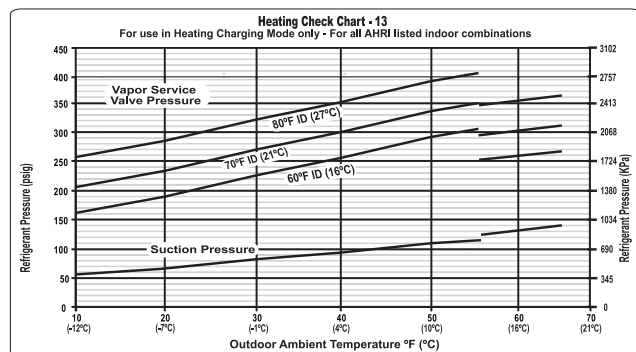

Fig. 27 – Heating Pressure Check Chart 288BNV013
Heating Check Chart Procedure (See Fig.27 - 33) (Communicating / Non-communicating Systems)
To use the Heating Check Chart, the user interface (UI) must be in Refrigerant Charging mode selected from the Installation and Service screen. The Charging Mode Selection screen will show selections for Weigh-In Charge Method or Heating Check Charge Method. Select Heating Check Charge Method. The Heating Check Charge method will only be displayed if the conditions are right for checking the charge in heating mode. When Heating Check Charge Method is selected, the system will operate by running in stage 5 with appropriate outdoor fan speed and indoor airflow. Upon completion of a countdown period for system stabilization, check refrigerant pressures for the appropriate ambient temperatures shown in Fig. 27 through 33 based the OD unit size.